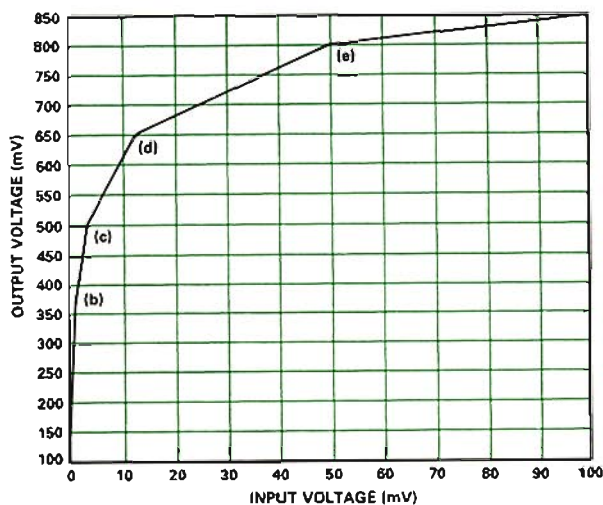
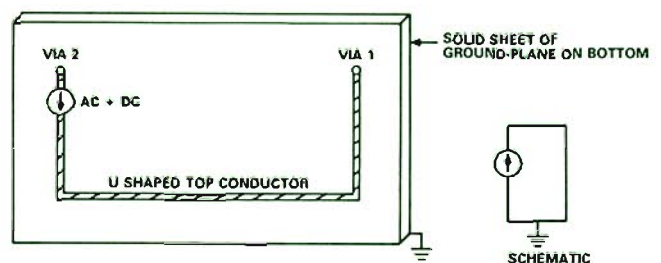

Figure 6. Output of last stage of system shown in Figure 5.
Figure 7. Schematic and layout of current source with U-shaped trace on pc board and return through ground plane.
Figure 6 is the calculated plot of V_{out} versus V_{in} (on linear scales) for the design choice $A = 4$ (about 12 dB) and $E = 50$ mV. It is apparent that compression is occurring on a quasi-logarithmic curve. For comparison, Figure 7 plots V_{out} on a linear scale versus V_{in} on a logarithmic one. The actual response shows a series of
Figure 7. Transfer function of conceptual device using dual-gain, plotted on log-lin scales; the dotted line corresponds to the ideal logarithmic function of Eq. (1); compare Figure 3.
The simple circuit shown in Figure 7, built on a two-layer printed circuit board, has an ac and dc current source on the top layer connected to via 1 at one end and to a single U-shaped copper trace connected to via 2. Both vias go through the circuit board and connect to the ground plane. Ideally, impedance is zero and the voltage appearing across the current source should be zero.